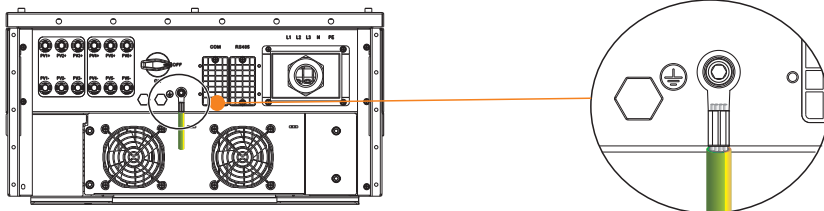

Figure 5.3 Securing the PGND cable
**Step 3** Secure the PGND cable using the ground screw and tighten the screw to a torque of 3 N·m, as shown in Figure 5.3.